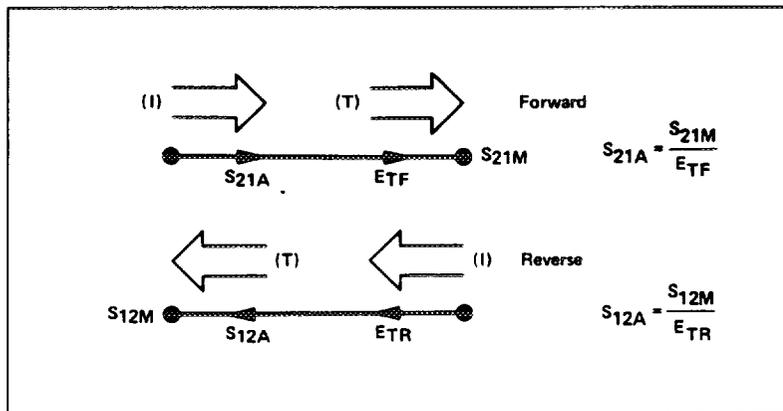

Figure 5-43. Transmission Coefficient
The transmission coefficient is measured by taking the ratio of the incident signal (I) and the transmitted signal (T) (Figure 5-43). Ideally, (I) consists only of power delivered by the source, and (T) consists only of power emerging at the test device output.